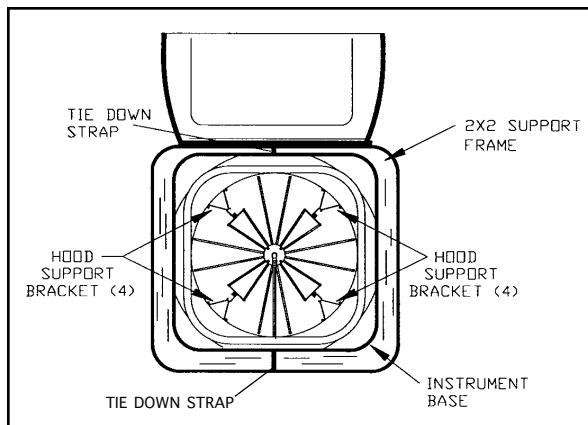

Figure 5a—Top view of carry case
Before removing any parts from the carrying case, the arrangement of the various items should be noted so that packing can be done easily. See Figures 5a and 5b.
1. Undo the velcro tie down straps at the two locations shown in Figure 5a.